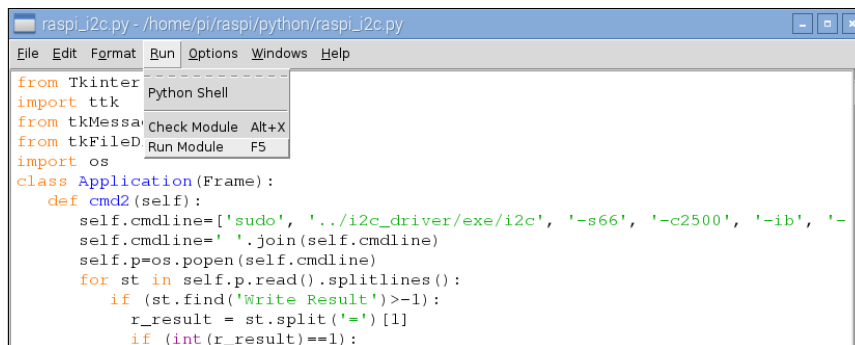

Figure 9.3. Starting the I2C Expander GUI
3. Start I2C Expander GUI by clicking **Run > Run Module** (Figure 9.3).